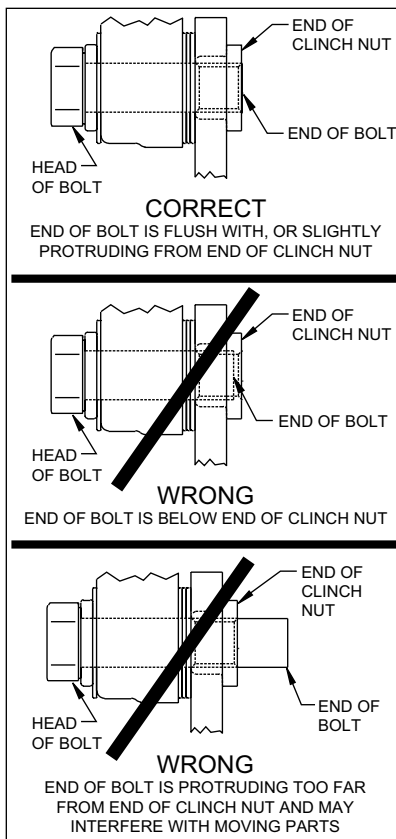

Figure 4.
use the same amount of shims on each of the two mounting bolts. **NOTE:** The end of each bolt must be flush with or slightly protruding from the head of the clinch nut, as shown in Figure 4. If necessary place spare shims between washer (10) and caliper mounting ear to achieve the proper clinch nut engagement. Once the caliper alignment and clinch nut engagement are correct, remove the bolts one at a time, apply red *Loctite*® 271 to bolt threads, and torque to 40 ft-lb.